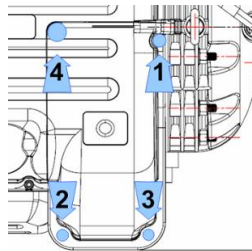

Figure 13 – Mains Input Cover Install
- Place the New Mains Input Cover and secure it with the fasteners. Tighten according to the following sequence. Refer to Figure 13 – Mains Input Cover Install.